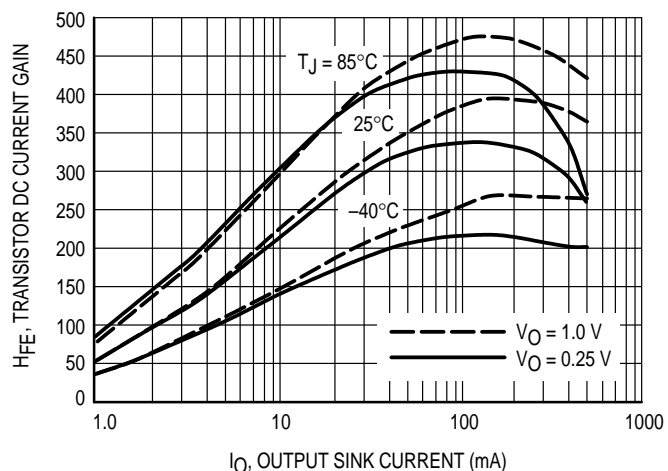

Figure 2. Transistor DC Current Gain
4. While keeping any $V_O(sat)$ requirements in mind, determine the max input current needed to achieve that output current from Figures 2 & 6.